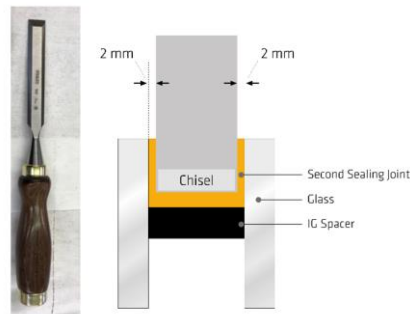

Figure 38: Chisel and chisel dimensions
3. Choose a chisel with a width 1-2 mm smaller than the cavity width of the IG unit (Figure 38).